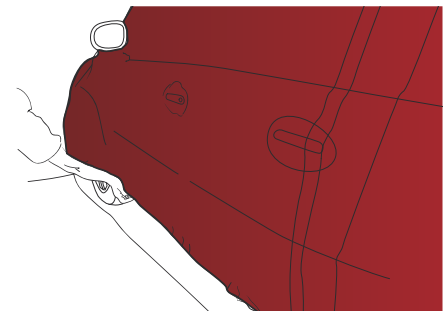

Figure 31
- › Once the door handles are done, tension the film down to the bottom of the vehicle body. (FIG. 31)